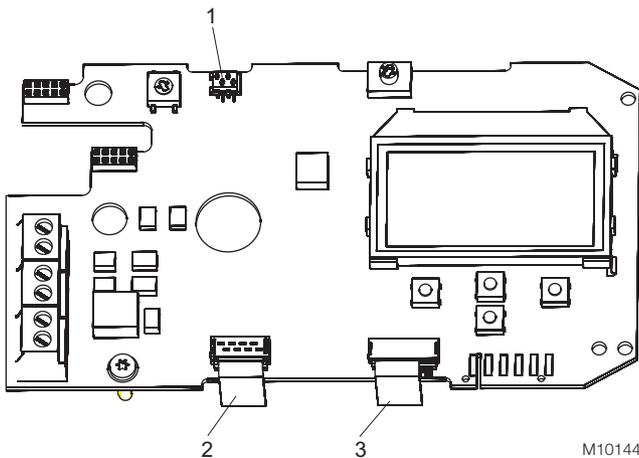

Fig. 19: Printed circuit board
11. Attach both plug connectors (1, 2) to the printed circuit board (see Fig. 19).
12. Attach the plug connectors for the pressure option (3) to the printed circuit board (see Fig. 19).